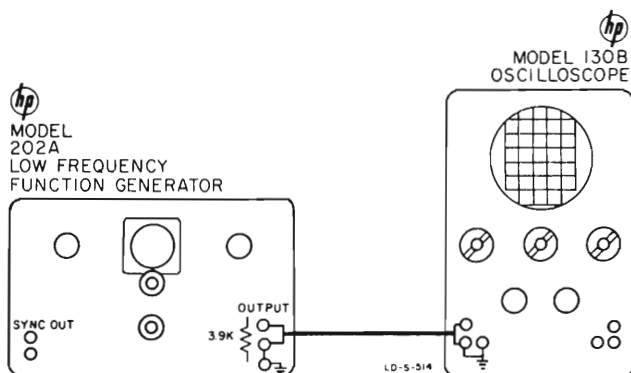

Figure 4-4. Output Voltage and Sync Pulse Test Setup
6) The ratio obtained in step 5 must be 15 to 1. Adjust by loosening the coupler between the dial and potentiometer (R58) shafts. See Figure 4-4 for coupler access hole location. Rotate one shaft with respect to the other to obtain a period of 83.3 milliseconds with a dial reading of 12. Tighten both set screws in the coupler.
1) Connect test setup as shown in figure 4-4, including a 3.9K ohm shunt resistor across the OUTPUT terminals of Model 202A.
- 1) Connect test setup as shown in figure 4-4, except oscilloscope is to be connected to SYNC. OUT on Model 202A and not to OUTPUT.